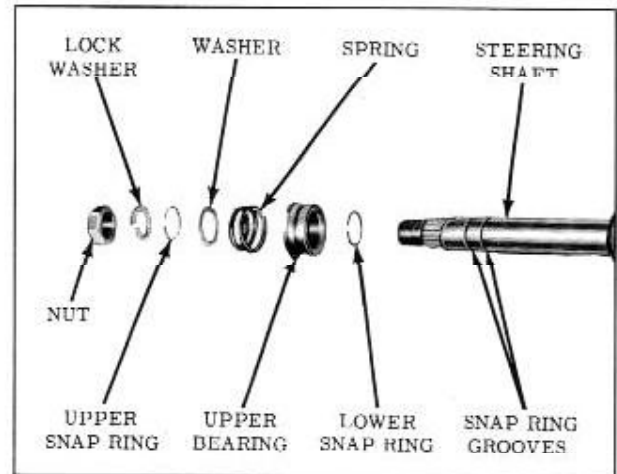

Fig. 4-24 Upper Shaft Assembly
18. Install new upper bearing lower retainer snap ring onto the steering shaft and position in snap ring groove. (Fig. 4-24)
22. Slide upper bearing, spring, (large diameter against bearing) washer and new upper retainer snap ring onto steering shaft. (Fig. 4-24)